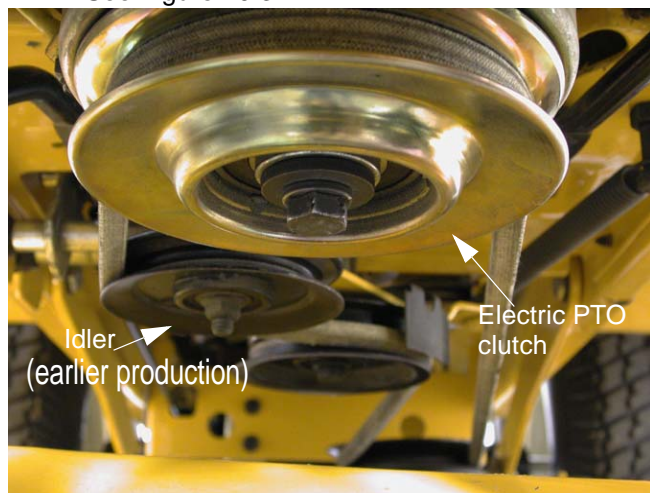

Figure 10.3
- 10.3. Remove the PTO belt from electric PTO clutch. See Figure 10.3.